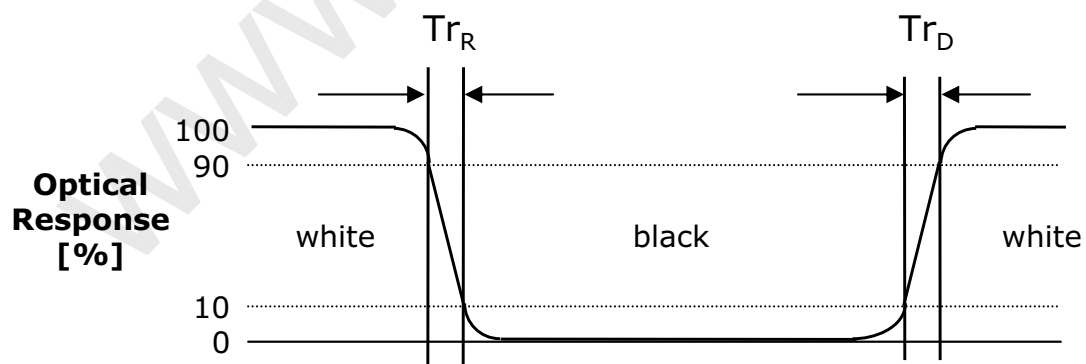

FIG. 3 Response Time
4. Response time is the time required for the display to transit from black to white (Decay time,  $Tr_D$ ) and from white to black (Rise Time,  $Tr_R$ ). For additional information see the FIG. 3.